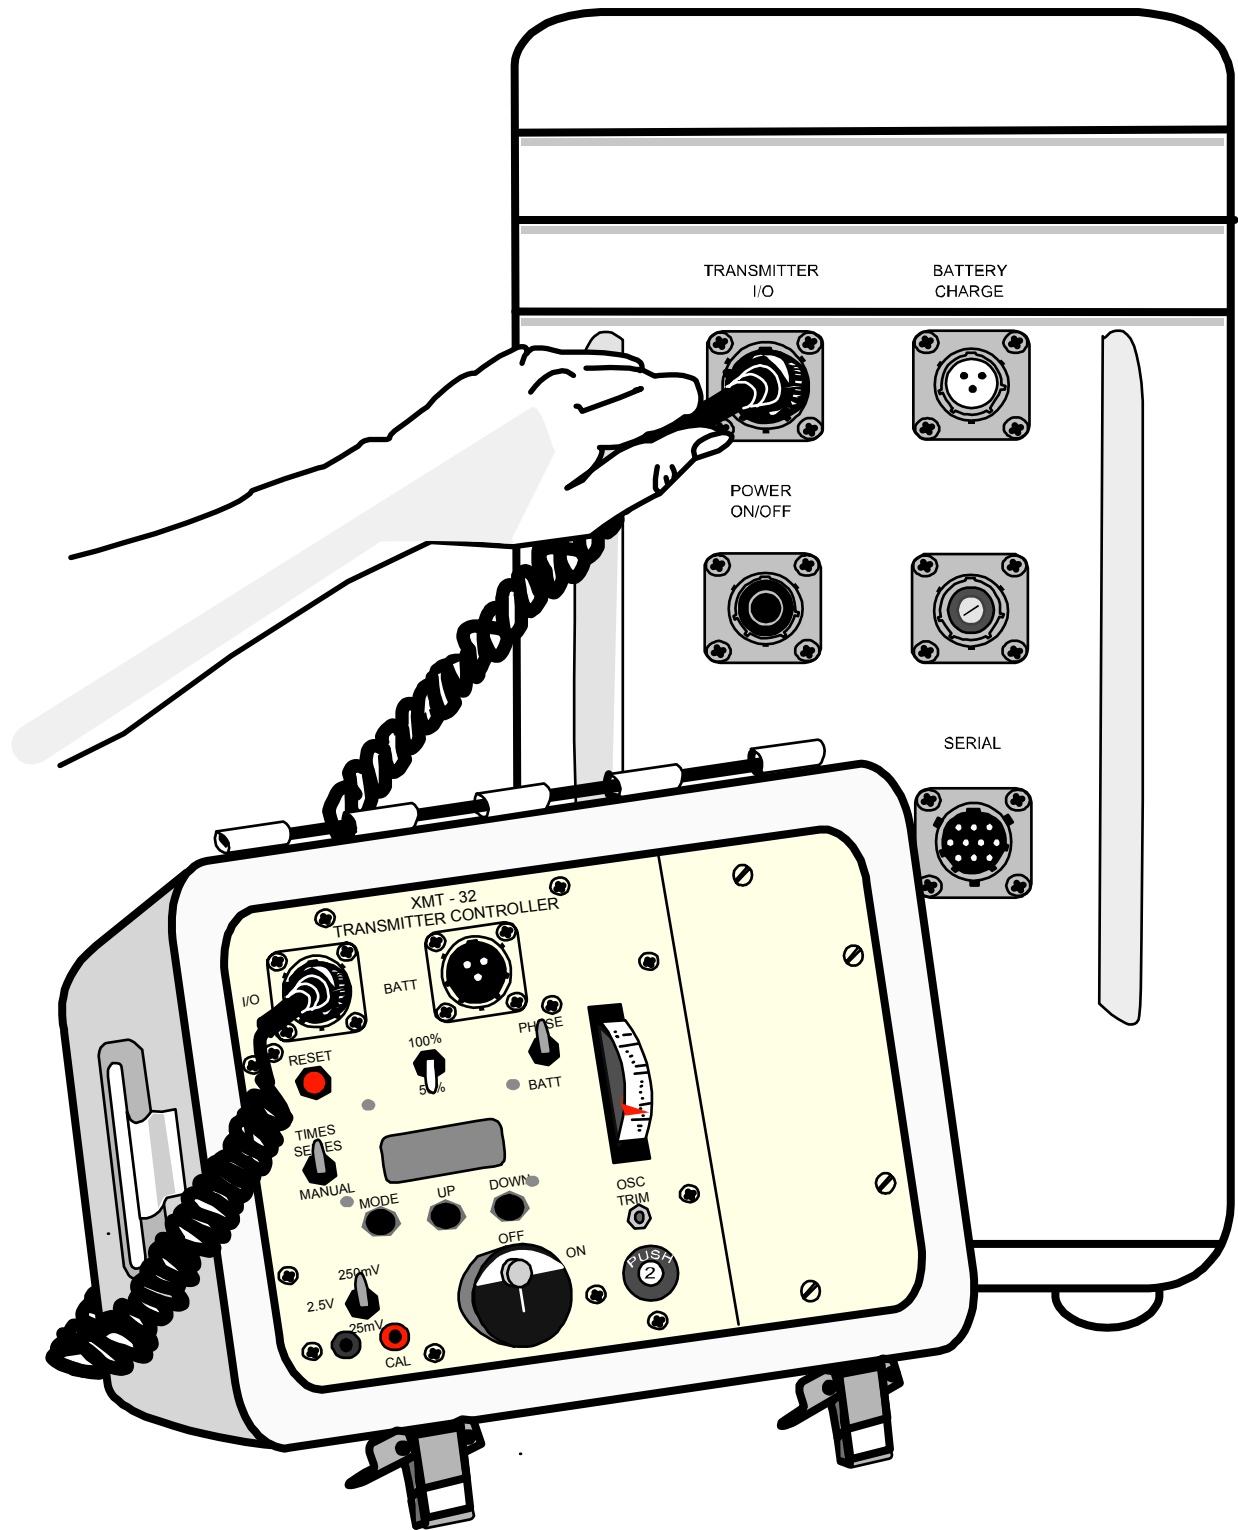

Figure 6.3 – Connecting the GDP-32^{II} Receiver and XMT-32 Transmitter Controller for synchronization.
Refer to Figure 6.3 and 6.4a,b for a pictorial description of the frequency adjust and synchronization operations.
2. Connect the synchronization cable between the I/O port on the XMT-32 Transmitter Controller and the TRANSMITTER I/O port on the Control I/O panel of the GDP-32^{II} receiver (Figure 6.3.)
1. Locate the OSC TRIM potentiometer adjustment screw on the panel of the XMT-32 (Figure 6.3.)